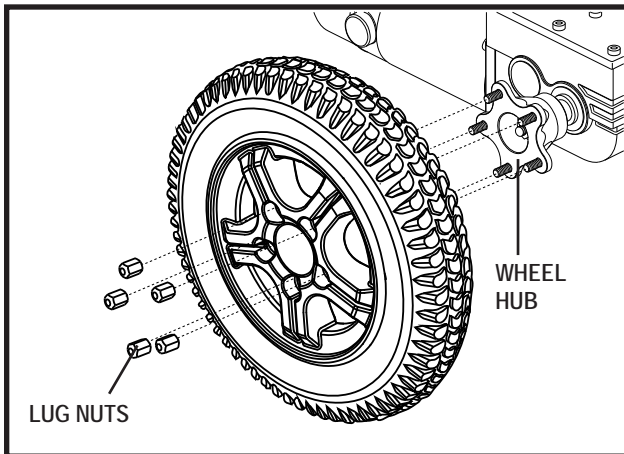

Figure 19. Quantum 6000Z Series Drive Wheel
4. Remove the five (5) lug nuts from the wheel hub. **See figure 19.**